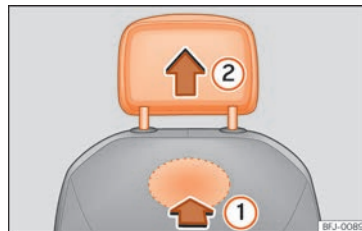

Fig. 110 Front headrest: removal.
- To unlock it, look for the rabbit on the bottom of the backrest and press in the direction of the arrow » Fig. 110 ①.
- Remove the headrest in the direction of the arrow ②.